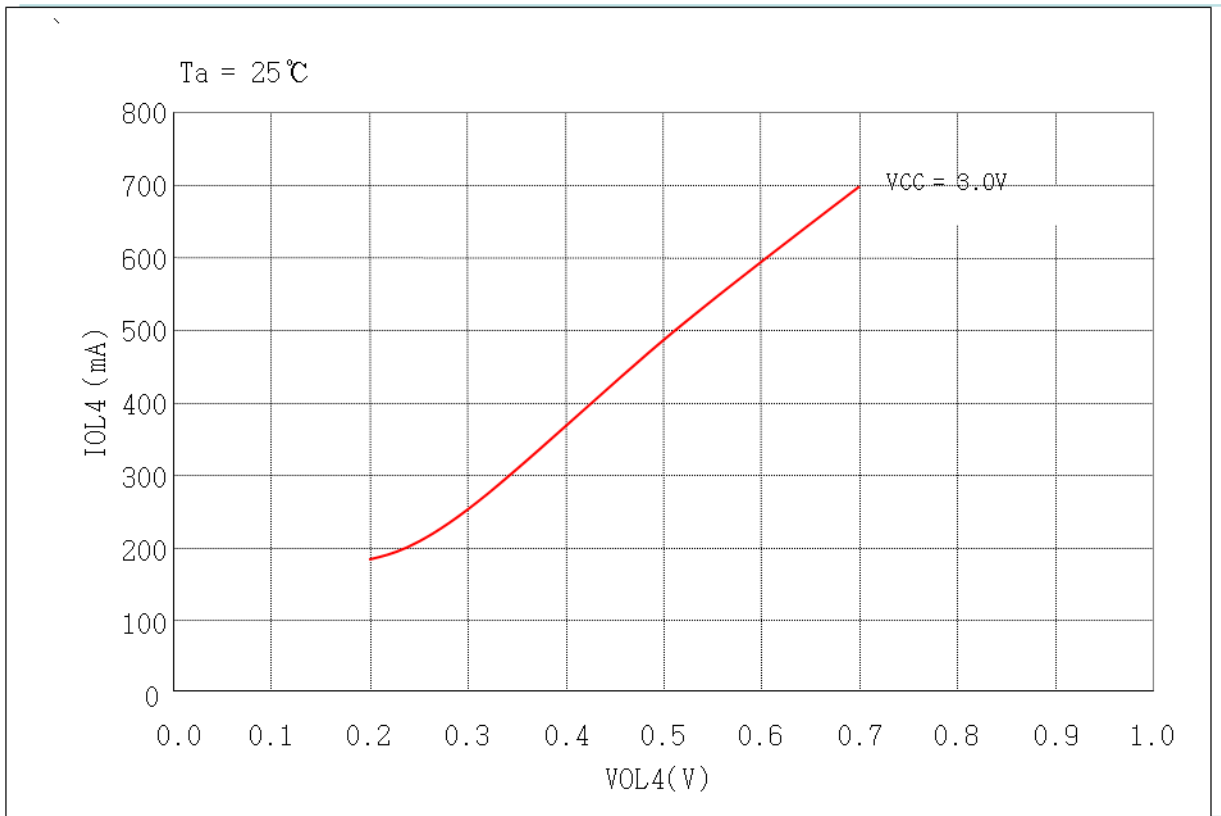

Fig 7-2. I_{OL4} vs. V_{OL4} Graph (REMOUT Port with built-in Transistor of MC40P5004,MC40P5204 and MC40P5404)
- *2 Refer to Fig.7-2 < I_{OL4} vs. V_{OL4} Graph >